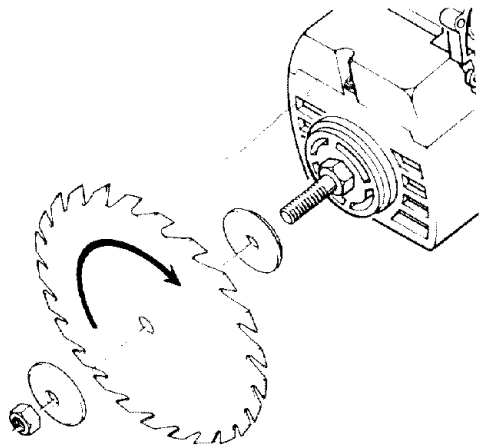

Fig. 79
2. Place the *blade* on the *arbor shaft* with a *blade collar* on each side. Make sure that the directional arrow is on the outside of the *blade*, and the teeth are pointing down at the front side of the blade. (Figure 79)